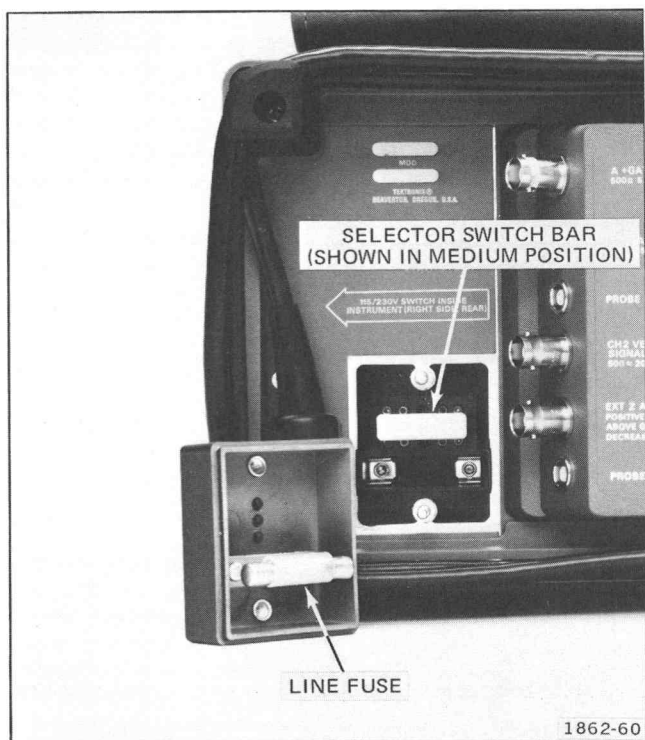

Fig. 2-1. Regulating Range Selector and Line Fuse.
5. Check Table 2-1 for the recommended range position of the Range Selector Switch Bar (see Figure 2-1). Select a range which is centered about the average line voltage to which the instrument is to be connected. The middle position ("M") is a typical setting.